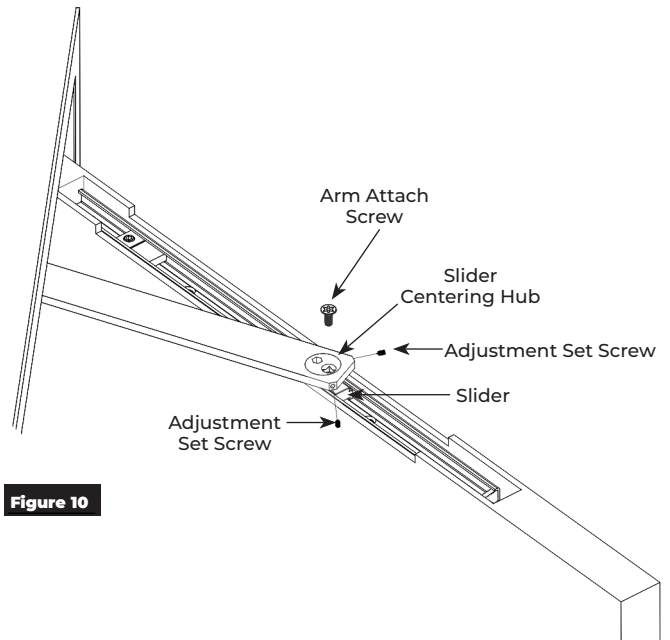

Figure 10
3. Install slider centering hub through arm into slider. (Figure 10)
5. Insert arm attach screw, 1/4-20 x 3/4-FHMS-TORX w/Nylon Patch, and tighten using a T30 Security Torx bit. (Figure 10)